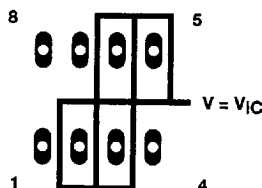
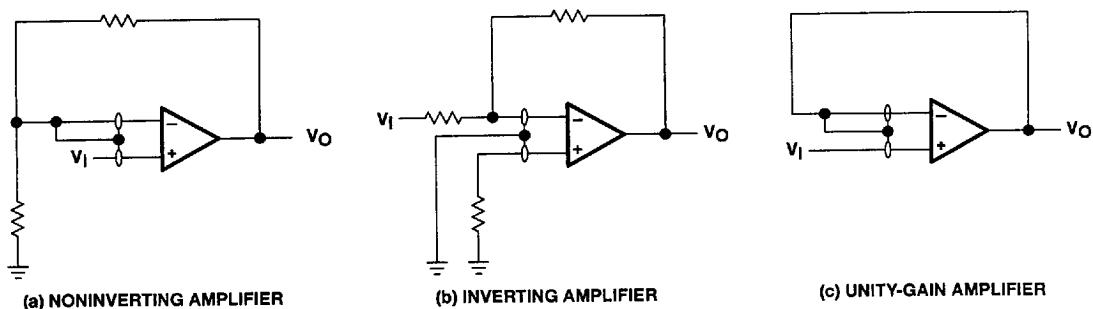

Figure 29. Isolation Metal Around Device Inputs
Figure 33. Guard-Ring Schemes
1. Isolate the device from other potential leakage sources. Use a grounded shield around and between the device inputs (see Figure 29). Leakages that would otherwise flow to the inputs are shunted away.
Because of the extremely high input impedance and resulting low-bias current requirements, the TLC2810Z is well suited for low-level signal processing; however, leakage currents on printed-circuit boards and sockets can easily exceed bias-current requirements and cause a degradation in device performance. It is good practice to include guard rings around inputs (similar to those of Figure 29 in the Parameter Measurement Information section). These guards should be driven from a low-impedance source at the same voltage level as the common-mode input (see Figure 33).